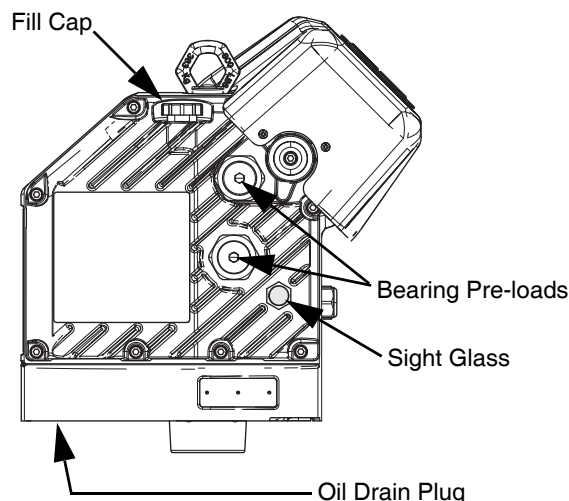

FIG. 13: Sight Glass and Oil Fill Cap
3. Remove the oil drain plug. See FIG. 13 for the location of the drain plug. Allow all oil to drain from the driver.
Refer to FIG. 13 below. Check the oil level in the sight glass on a regular basis. The oil level should be near the halfway point of the sight glass when the driver is not running. If the oil is low, open the fill cap and add Graco Part No. 16W645 ISO 220 silicone-free synthetic EP gear oil.